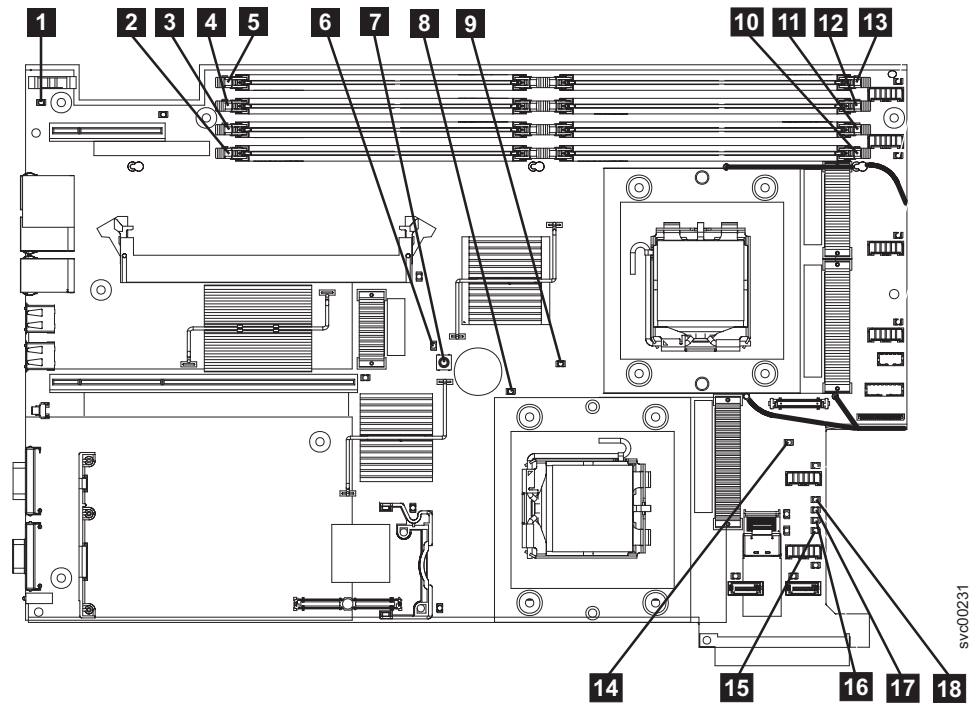

Figure 98. Bird's eye view of the SAN Volume Controller 2145-8G4 system board
YES Refer to Table 28 on page 420 and perform the action specified for the specific light path diagnostic LEDs, then go to step 3 on page 421. Some actions will require that you observe the state of LEDs on the system board. Figure 98 on page 419 shows the location of the system board LEDs. The fan LEDs are located adjacent to each FAN. To view the LEDs you will need to do the following:
- d. Press the light path diagnostic button (**7** in Figure 98).